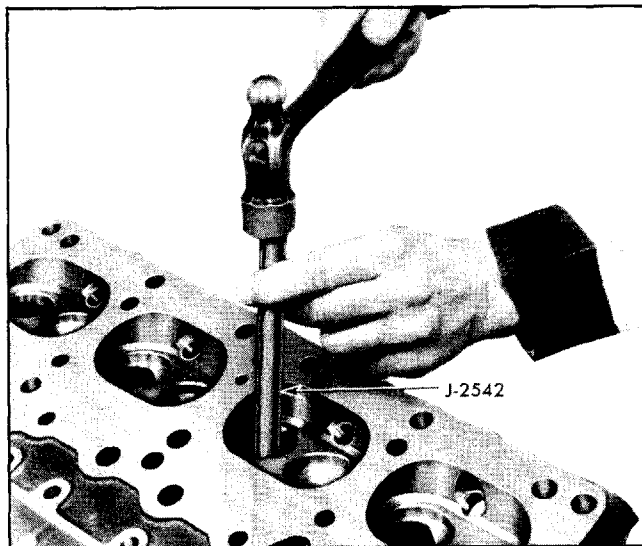

Fig. 6-41 Driving Out Valve Guide
1. Drive out old valve guide using Valve Guide Remover and Replacer J-2542 (Fig. 6-41).